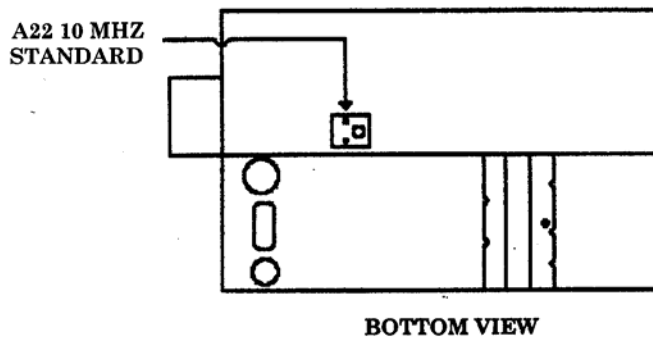

Figure 1. Frequency adjust.
- (6) Remove A22 adjustment cover screws.
- (7) Adjust A22 (fig. 1) for a minimum indication on the time/frequency workstation.
- (8) Check the drift after 24 hours. The drift will be  $<1 \times 10^{-9}$